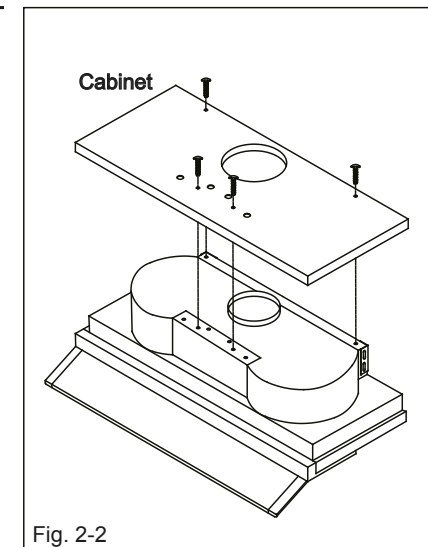

Fig. 2-2
3. Using the provided drawing cardboard to drill holes under the cabinet. Install the unit with screws and washer as shown in the figure. (Fig. 2-2)